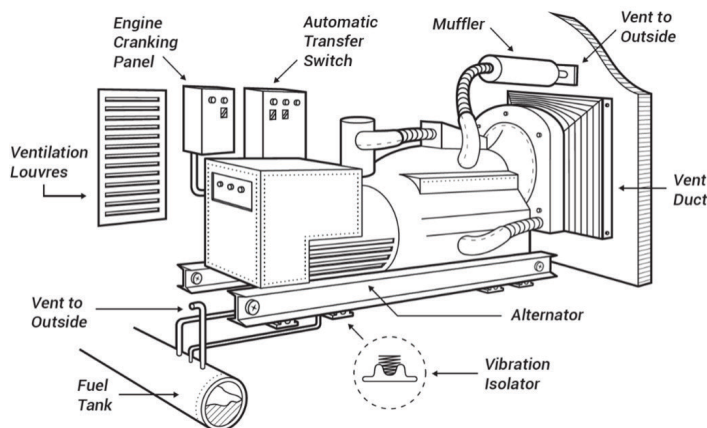

Figure 1. Stationary standby power unit.
Gasoline, liquid propane (LP) gas, and diesel engines are available to power these units. LP fuels generally burn cleaner than gasoline. This promotes longer engine life and reduces frequency of service. Gasoline tends to form a varnish in the system during storage, which may make starting difficult. Except for very large engines, diesel units cost more initially than gasoline engines of comparable capacity. However, operating and maintenance costs are lower for diesel engines. A typical standby power unit is shown in Figure 1.